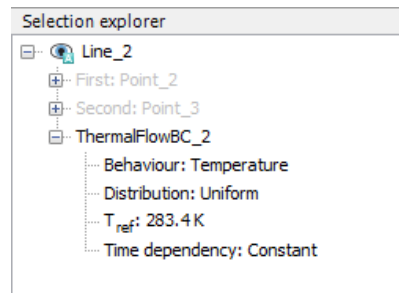

Figure 228: Thermal boundary condition in the **Selection explorer**
9. Set the reference temperature, T_{ref} to 283.4 K which is shown in Figure 228 (on page 259).